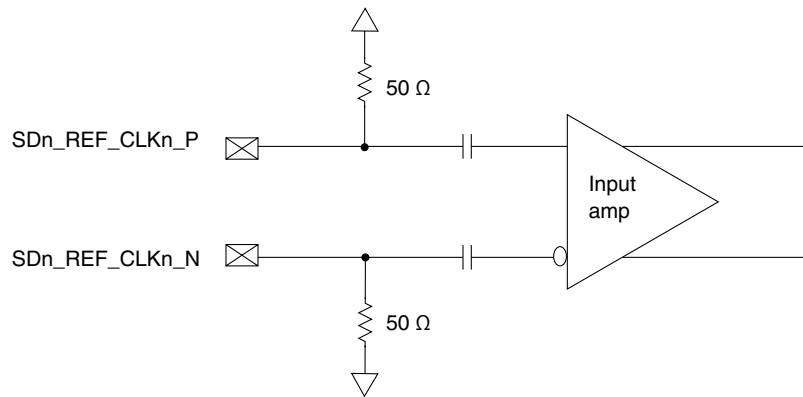

Figure 68. Receiver of SerDes reference clocks
- They are internally AC-coupled differential inputs as shown in Figure 68. Each differential clock input ($SDn_REF_CLKn_P$ or $SDn_REF_CLKn_N$) has on-chip $50\text{-}\Omega$ termination to SD_GND followed by on-chip AC-coupling.